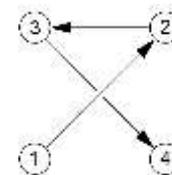

**Figure 6
- (1) Put a fuel collection container under the fuel injector (Figure 6).